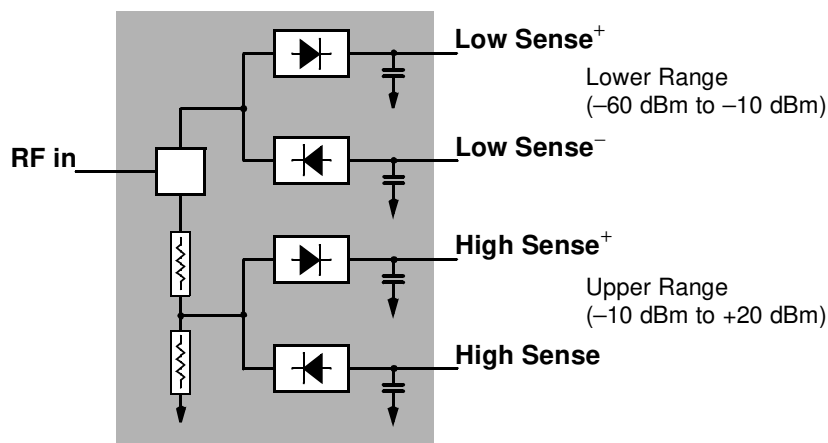

Figure 1-3 Simplified Block Diagram of Diode Pair/Attenuator/Diode Pair
- Figure 1-3 Simplified Block Diagram of Diode Pair/Attenuator/Diode Pair 9
64 MB SDRAM. The available processing power enables the implementation of Correction Algorithm such as Linearity Correction, Calibration Factor, Temperature Compensation Algorithm and Internal Zeroing algorithm. The correction factors for the products are stored in a 3 MB Flash memory. In the Temperature Compensation Algorithm and Internal Zeroing algorithm implementation, the processor continuously monitors product temperatures using a thermistor which is located in the vicinity of the diode sensing element as shown in Figure 1-3. The trigger input port which is based on TTL enables the product to synchronize with events. The U2000 Series supports high data rate transfer of 480 Mb/s through the Universal Serial Bus (USB) connectivity which is USB-TMC compliance.
The U2000 Series USB power sensors are true average, wide dynamic range RF/microwave power sensors. They are based on a dual sensor diode pair/ attenuator/diode pair as proposed by Szente et. al. in 1990¹. Figure 1-3 shows a block diagram of this technique.